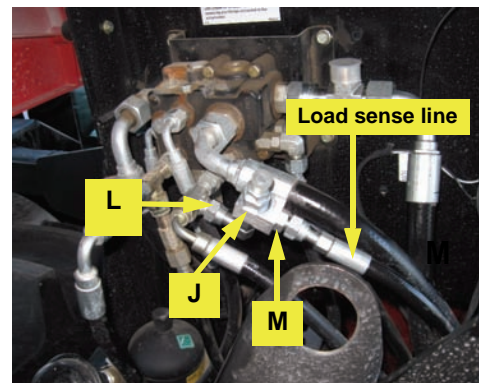

Figure 4d: Installed load sense shuttle
d. Connect the female elbow fitting **L** of the load sense shuttle **J** to the open stem of the load sense run-tee (Figure 4d).
e. Reconnect the load sense line to load sense shuttle fitting **M** (Figure 4d).